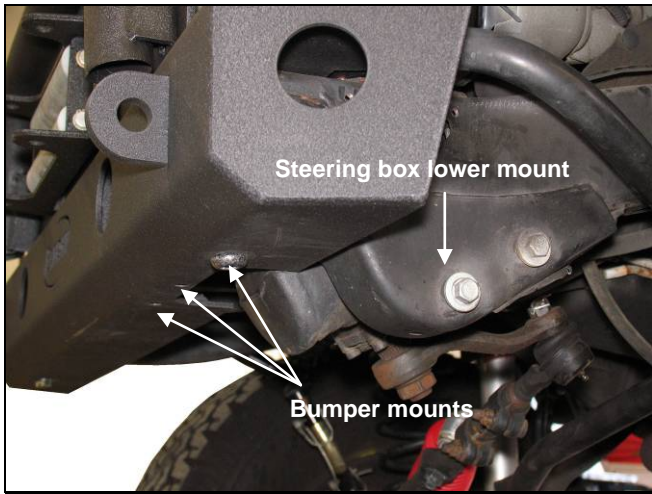

Figure 1
- 1)  Locate the skid plate mounting holes on the bumper and lower steering box bolt. See Figure 1.